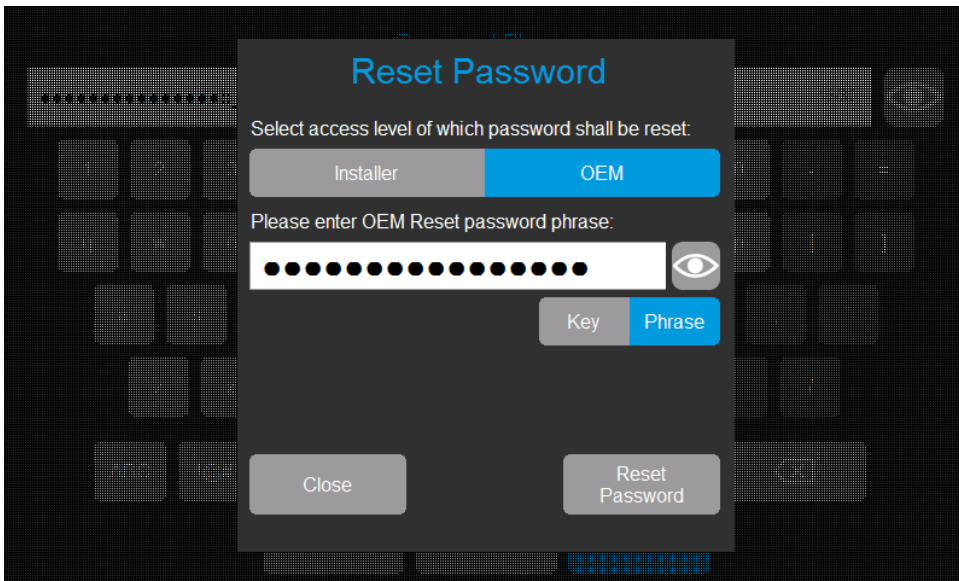

Fig. 96: Reset Password dialog box with entered password.
6. Select the Reset Password button. Refer to Fig. 96.